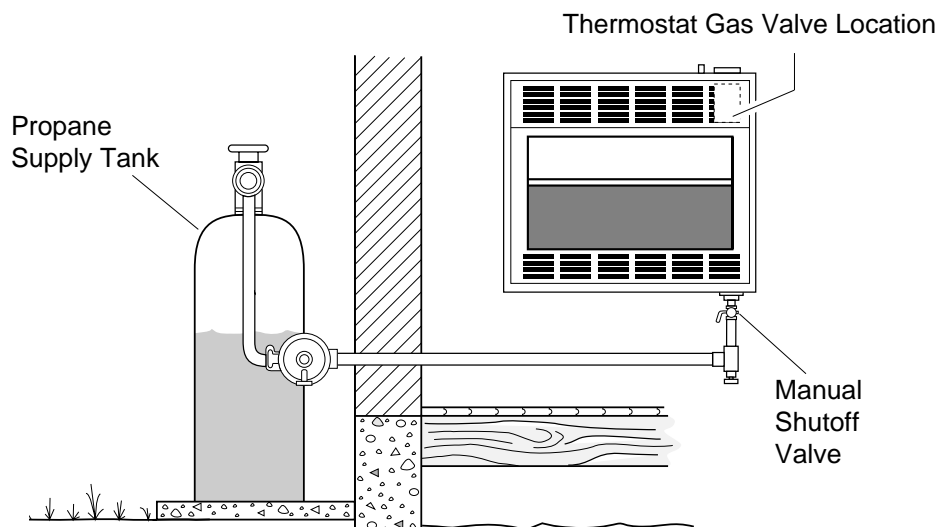

Figure 27 - Checking Gas Joints
3. Check all joints from propane supply tank to manual shutoff valve (see Figure 27). Apply mixture of liquid soap and water to gas joints. Bubbles forming show a leak.
4. Check all joints from manual shutoff valve to thermostat gas valve (see Figure 27). Apply mixture of liquid soap and water to gas joints. Bubbles forming show a leak.